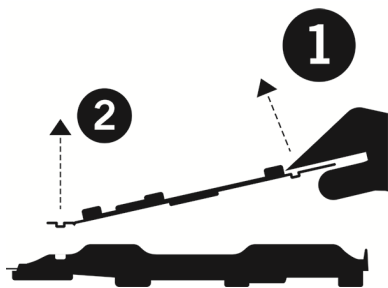

Figure 1
- Remove the handle retainer from the tray before removing the catheter. See Figure 1 in the Packaging and Shelf-Life section.
The catheter packaging is designed to prevent crushing of the product, to minimize product exposure to the atmosphere, and to provide for aseptic product transfer. It is recommended that the product remain in the unopened package until time of use. The expiration date is marked on the outside of the package. The product should be stored in a cool, dry location. To remove the catheter from its tray, remove the handle retainer from the tray then lift the catheter up and out of the tray. See Figure 1.